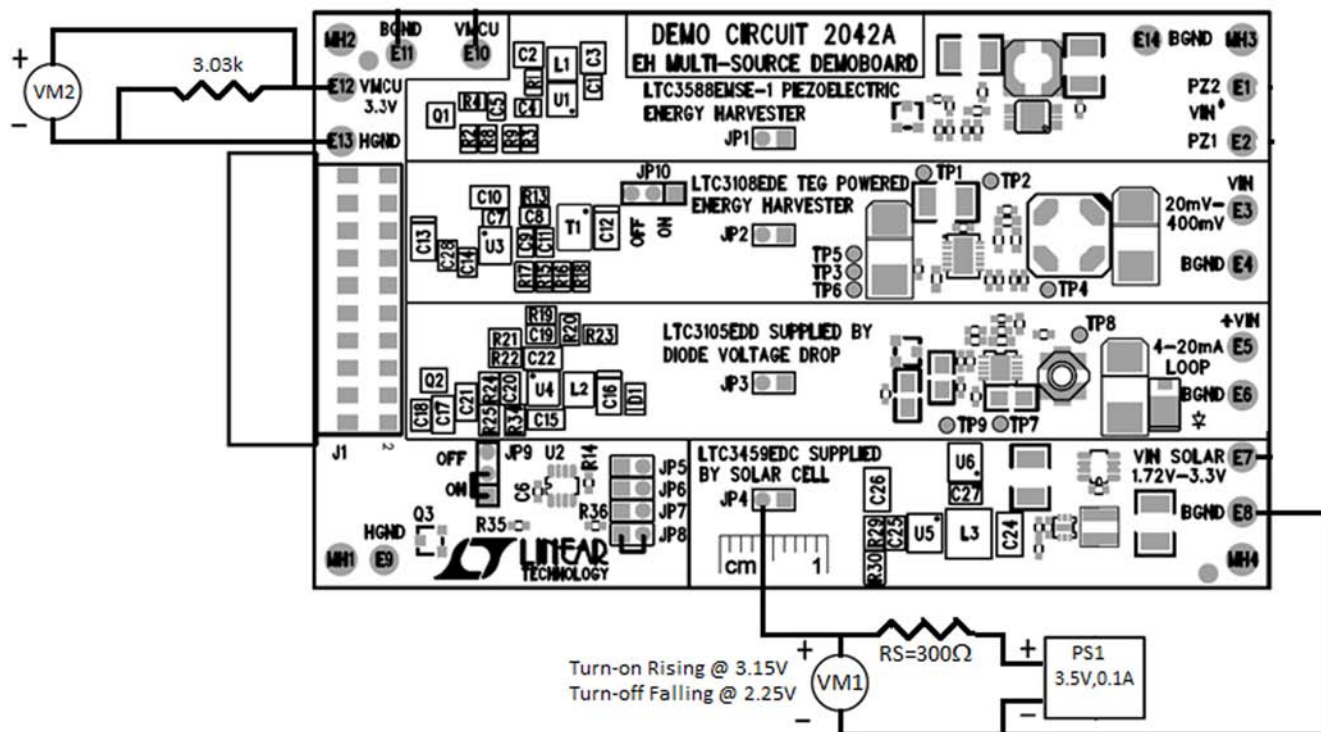

Figure 2. VMCU Power Switchover Test Setup (Test Steps 2 to 5)
Refer to Figures 2 through 6 for the proper measurement equipment setup and jumper settings for the following test procedure.
2. Configure the test equipment and jumpers as shown in Figure 2. Verify the jumper settings are as follows: